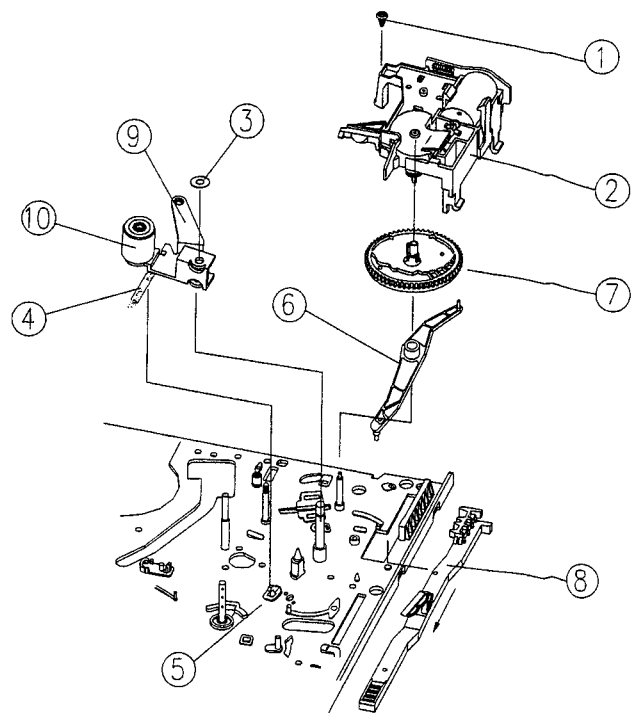

Fig.3-11 L/C BRKT, PINCH LEVER, CAM GEAR, RELAY LEVER, F/L RACK REMOVAL
3-6. L/C BRACKET ASS'Y REMOVAL (See Fig.3-11)
3-7. PINCH LEVER TOTAL ASS'Y REMOVAL (See Fig.3-11)
3-8. CAM GEAR, RELAY LEVER AND F/L RACK REMOVAL (See Fig.3-11)
- Remove the CAM GEAR ⑦ from the MAINBASE. (Fig.3-11)
- Remove the RELAY LEVER ⑥ from the MAINBASE. (Fig. 3-11)
- Remove the F/L RACK ⑧ from the MAINBASE by pulling it in the direction of the arrow.